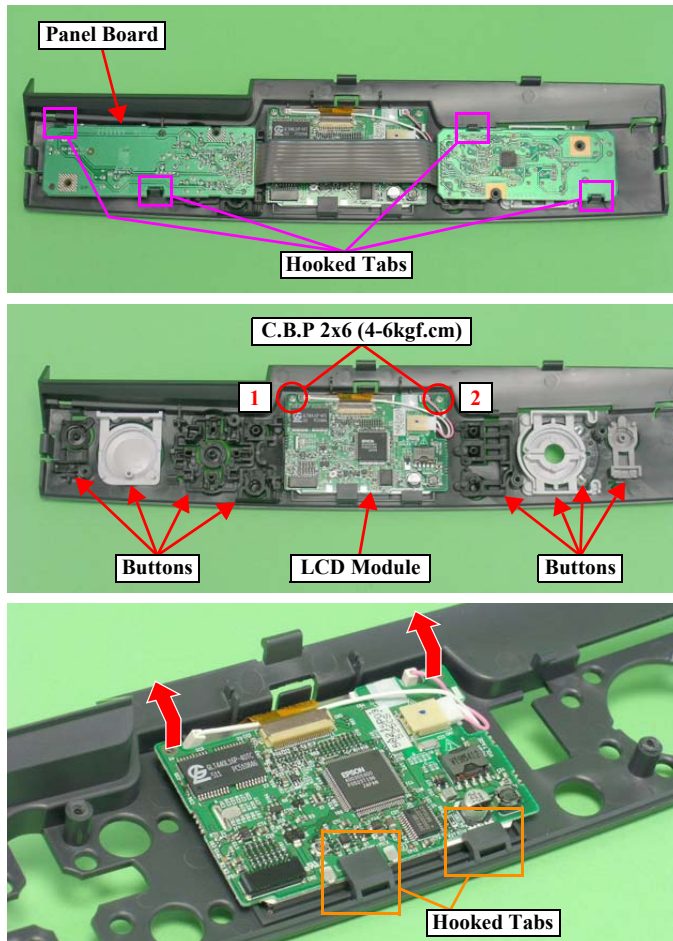

Figure 2-9. Removing the Panel Board/LCD Module (2)
- Tighten the screws to secure the LCD Module in the order shown in Figure 2-9.